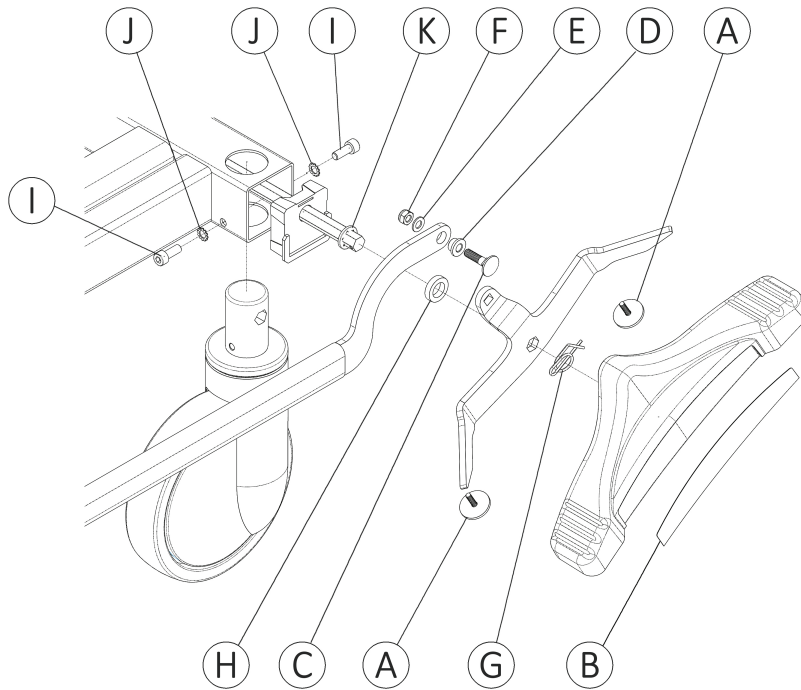

Figure 7 – Steer caster
4. Using needle nose pliers, remove and discard the rue ring cotter pin (G) from the hex shaft (Figure 7).
6. Remove and save the plastic washer (H) that is on the hex shaft (Figure 7).
7. Using a hammer and a large screw driver, remove and discard the starlock retainer (K) that is on the hex shaft (Figure 7).
8. Using a 5 mm hex wrench, remove and discard the two screws (I) and washers (J) that secure the non-steer caster to the base frame (Figure 7).